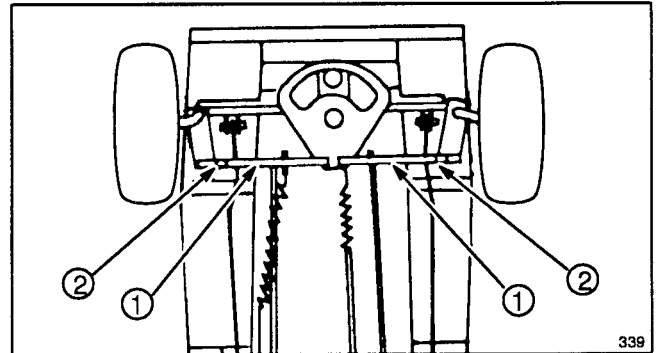

**Figure 27**
**IMPORTANT:** The idler pulley retainer must be installed at an 80° to 90° angle to the idler mounting bracket (Fig. 27). Otherwise, the rider may move slightly when the clutch is pushed down.